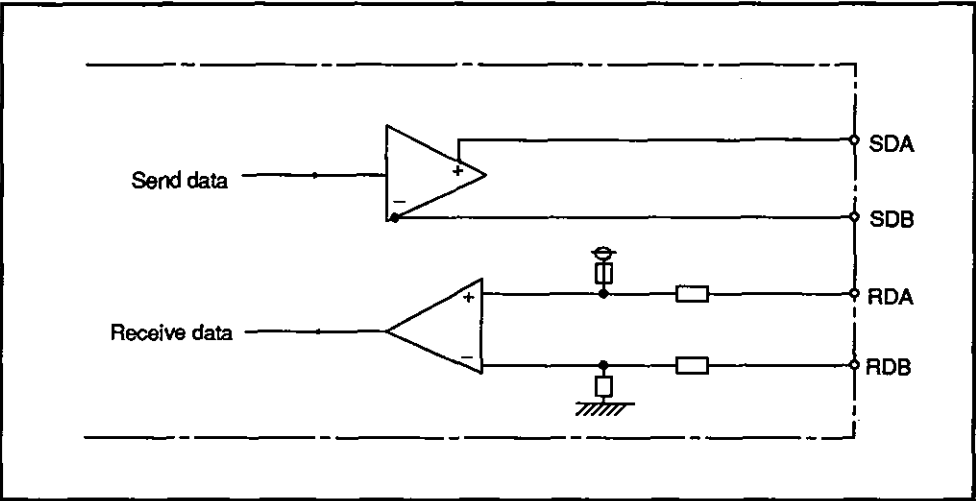

Fig. 3.2 RS-422/485 Interface Functional Block Diagram
(2) Fig. 3.2 shows the functional block diagram of the RS-422/485 interface.